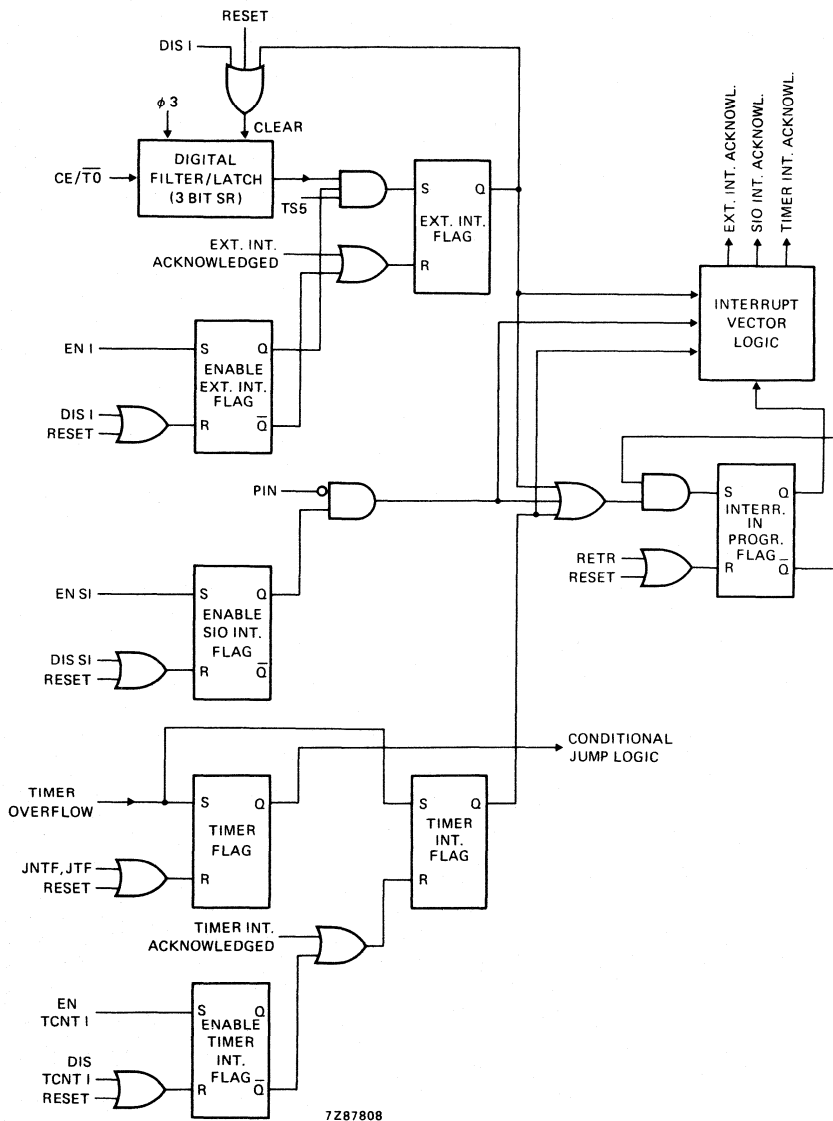

Fig. 15 Interrupt logic.
**FUNCTIONAL DESCRIPTION** (continued)**Interrupts** (see Fig. 15)
**Notes to figure 15**